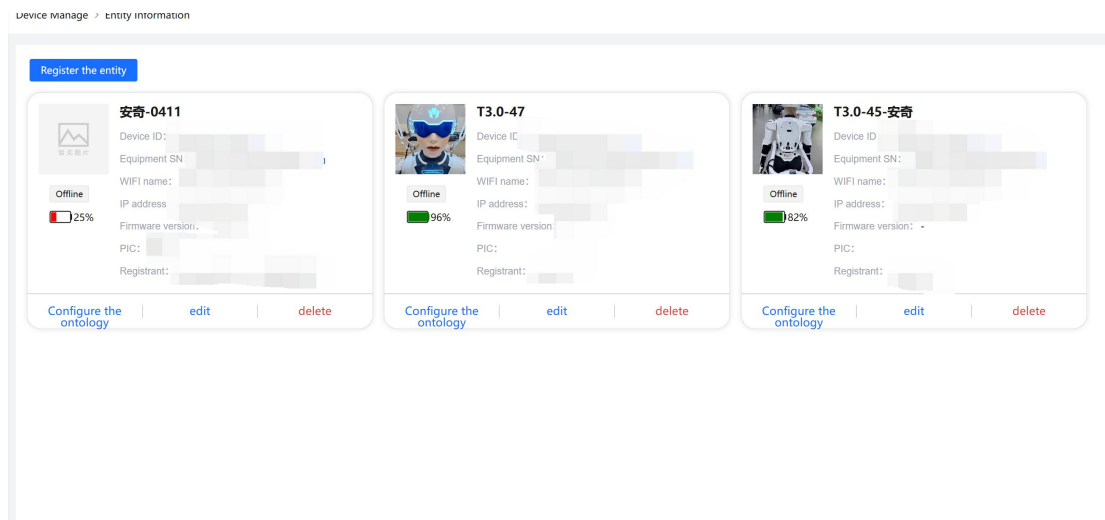

Figure 53 Body management interface
This interface allows viewing the status of various robots under the current tenant. Within the robot information panel, users can configure, edit, or delete different robots while visually displaying their online statuses. The display includes device name, ID, serial number (SN), Wi-Fi name, IP address, firmware version, and assigned administrator (as shown in Figure 53).